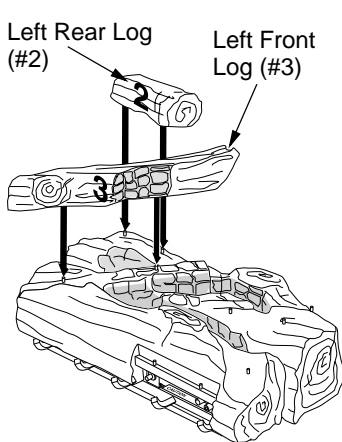

Figure 25 - Installing Left Top Logs (#2 and #3)
2. Facing front of unit, place left rear log (#2) onto the two pins on left rear of base log (see Figure 25).
3. Position left front log (#3) onto two pins on left front and middle of base log (see Figure 25).